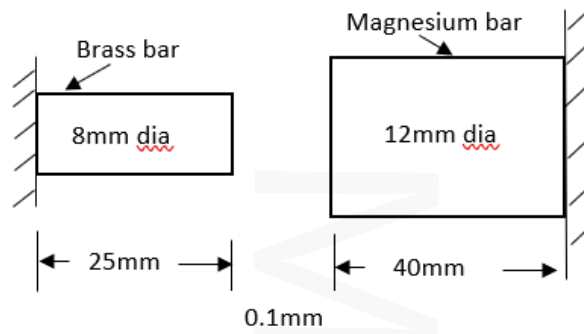

Fig.3
- 13 A bimetallic thermal control made of brass bar of 8mm diameter and magnesium bar of 12mm diameter is as shown in Figure 3. The bars are so arranged that the gap between their ends is 0.1mm at room temperature. Find the temperature increase above the room temperature at which two bars just come in contact. Also find the compressive stress in magnesium bar when the temperature increase is 320°F . 14